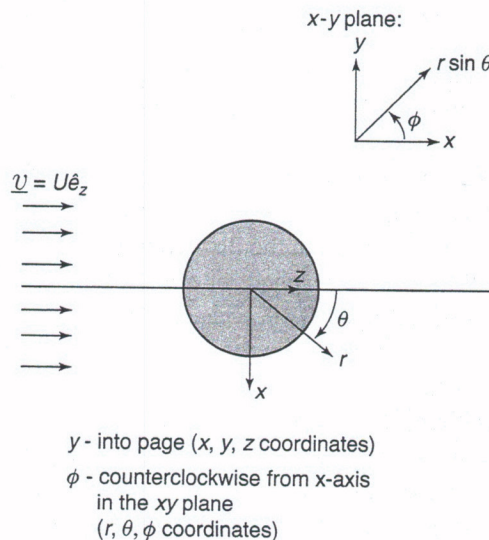

Figure 3.40
33. For the horizontal flow around a sphere in a wind tunnel, the top view of the geometry is shown in Figure 3.40. Relative to the spherical coordinate system shown, what is a unit vector in the direction of gravity? What is the component of gravity in the flow direction?